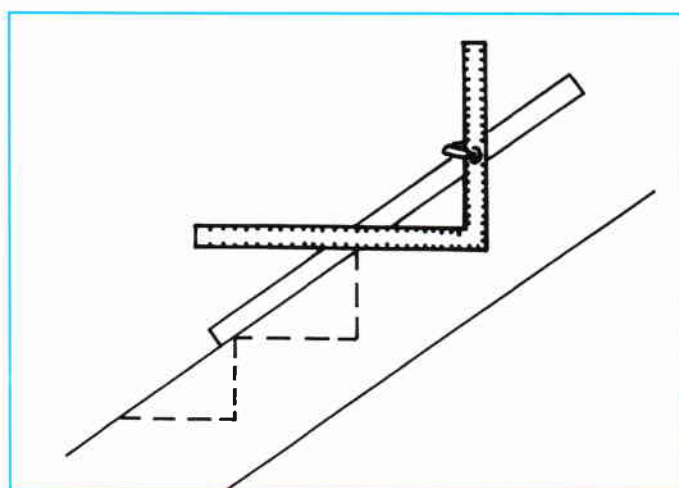
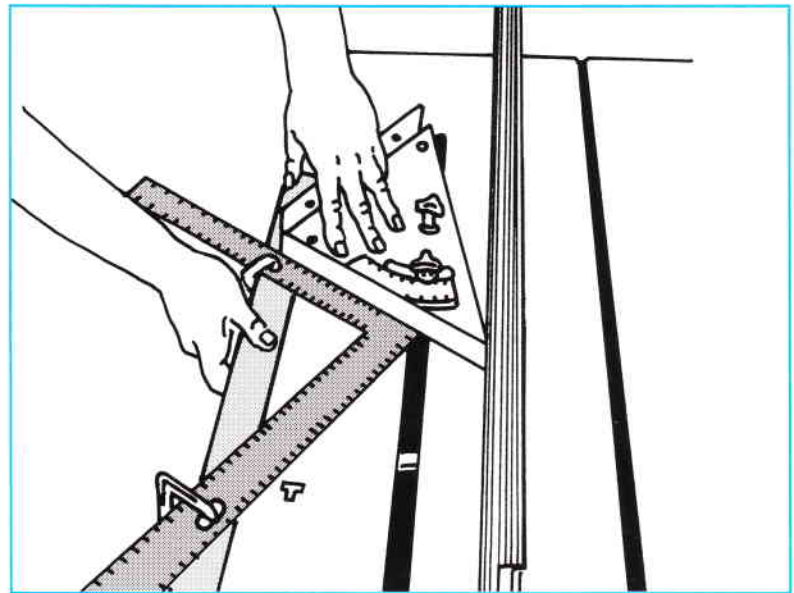

FIGURE 2
FIGURE 5
2. Steps 7 and 8 relate to cutting rebates on left-handed and right-handed newel posts. Triton Workcentres manufactured prior to 1991 were supplied with double-sided protractors that would swivel 45 degrees in one direction only. This meant that when cutting mirror imaged rebates it was necessary to cut one in the crosscut mode, and the other in the tablesaw mode, as described in Steps 7 and 8 and Figures 5 - 10.
An easy way to mark the tread positions onto the strings is to clamp a batten across a large framing square as shown in **Figure 2**. The lower edge of the batten must be exactly on the appropriate rise and going dimensions; the slope of the batten is then exactly the slope of the staircase. The batten is slid along the string and the position of the treads marked out.
To make the angled rebates for the left-hand post(s), lower the saw table and adjust the blade height to cut half-way through the material (45mm deep in our case). Use the batten and framing square illustrated in **Figure 2** to set the angle of your protractor (**Figure 5** shows the procedure), then reverse the protractor to use as a guide when cutting the rebates. Clamp the protractor in the table slot, and you may want to clamp a batten across the table at the same angle to give more support to your workpiece.